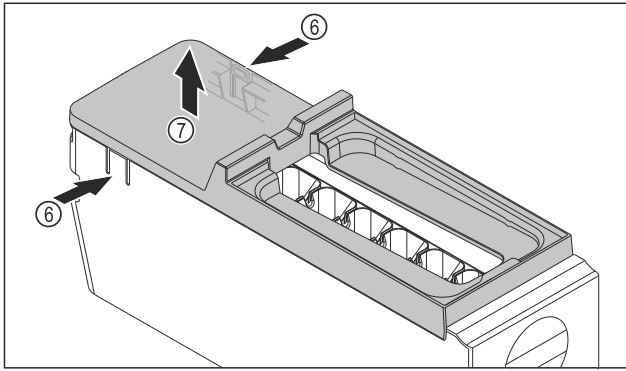

Fig. 164
- Removing the cover of the EasyTwist-Ice body: With one hand, press the tabs Fig. 164 (6) on both sides of the EasyTwist-Ice body.
- With the other hand, remove the cover Fig. 164 (7) upward.